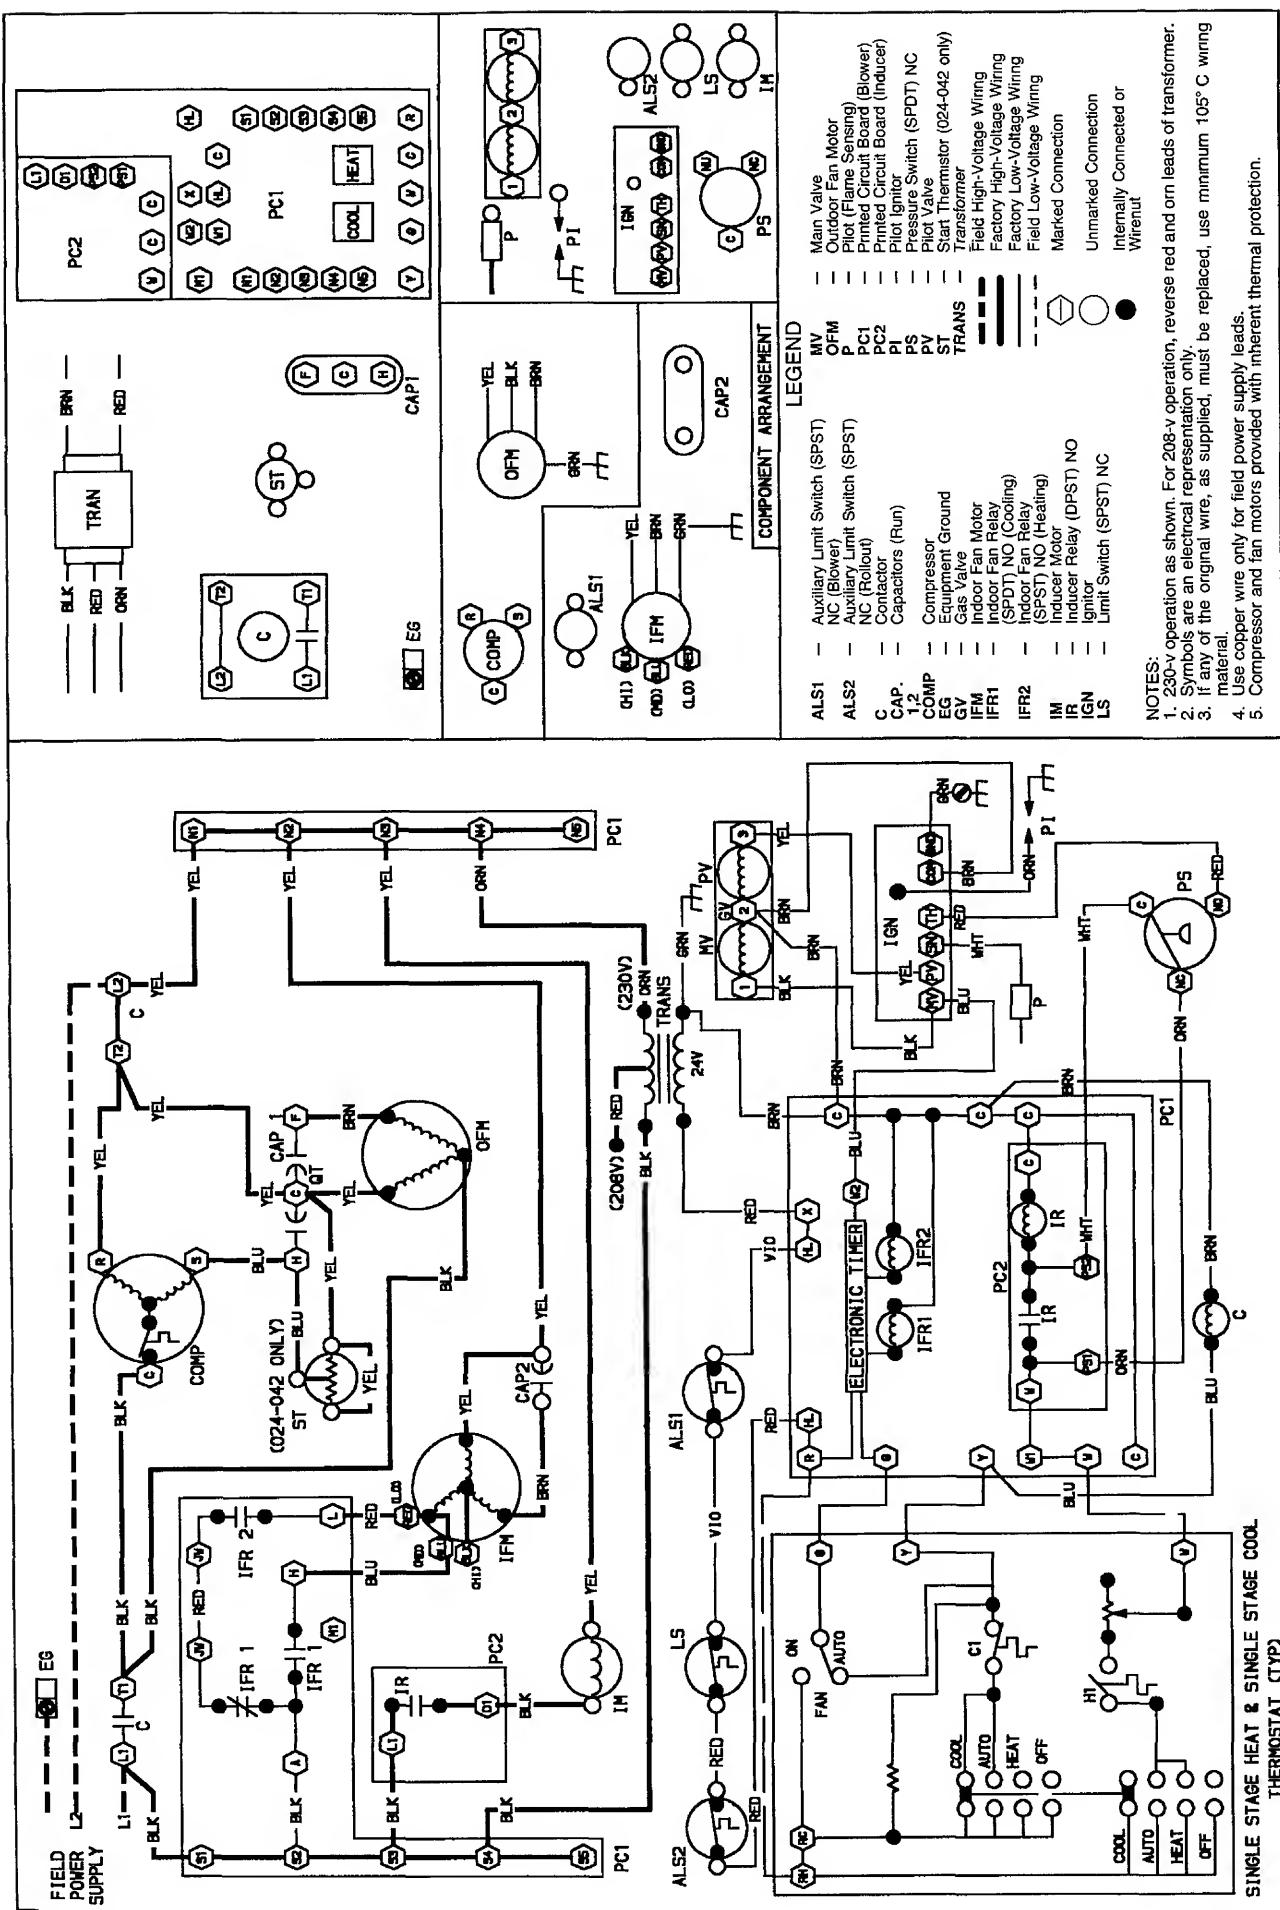
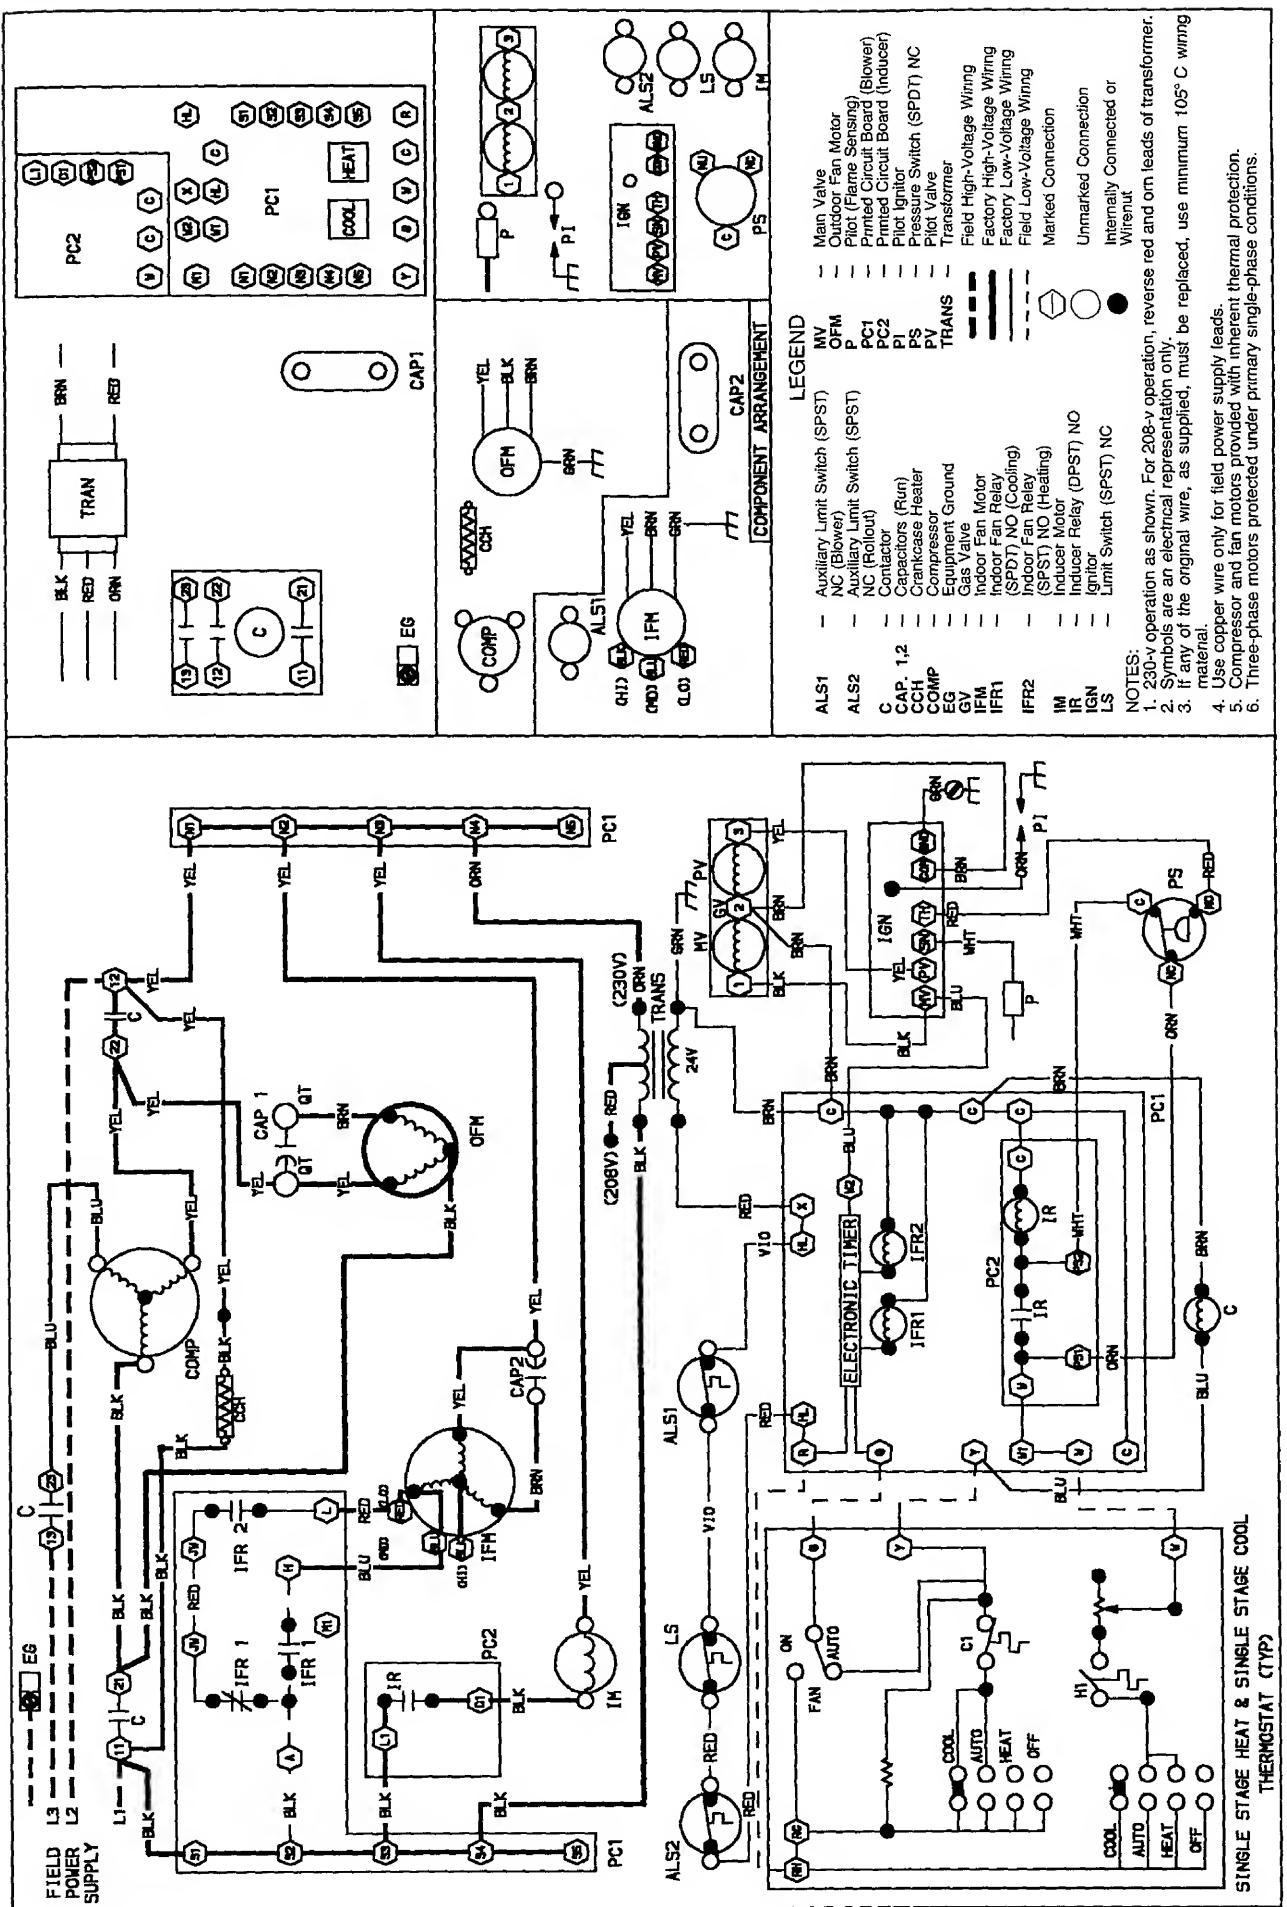

Fig. 13 = Typical Single-Phase Wiring Diagram
Fig. 14 – Typical 3-Phase Wiring Diagram
HEATING SEQUENCE OF OPERATION — See Fig. 13 for single-phase operation and Fig. 14 for 3-phase operation. Room thermostat calls for heat, closing circuit between R and W 24-v control circuit terminals. (Power to the R terminal is supplied through LS and ALS safety switches.) The PC2 inducer control board is energized through the normally closed set of contacts of pressure switches (CPS), which starts the inducer motor (IM). The IM comes up to speed, and the vacuum in the collector box increases, opening the normally closed and closing the normally open contacts of the pressure switch (PS), energizing the circuit to the ignition control (IGN) and the pilot valve (PV). If the flame sensor proves the presence of the pilot flame, the internal switching of the ignition control deenergizes the spark generator and energizes the main gas valve (MV) and the IFR2 electronic timer. Gas flows to the main burners and is ignited by the pilot flame. The PC1 electronic timer
LIMIT SWITCHES — Normally closed limit switch LS completes the control circuit through the thermostat R circuit. See Fig. 13 and 14. Should the leaving-air temperature rise above the maximum allowable temperature, the limit switch opens and the R control circuit "breaks." Any interruption in the R control circuit instantly closes the gas valve and stops gas flow to the burners and pilot. The IFM continues to run until the LS resets.